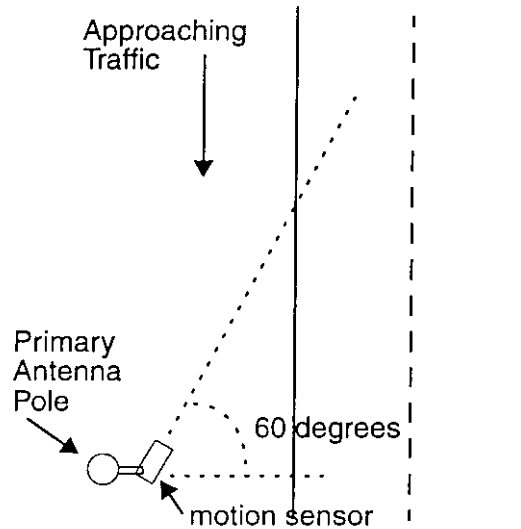

Figure 3-7 Motion sensor angle for monitoring approaching traffic
- with the motion sensor's direction of aim angled 60 degrees toward oncoming traffic, as shown in Figure 3-7